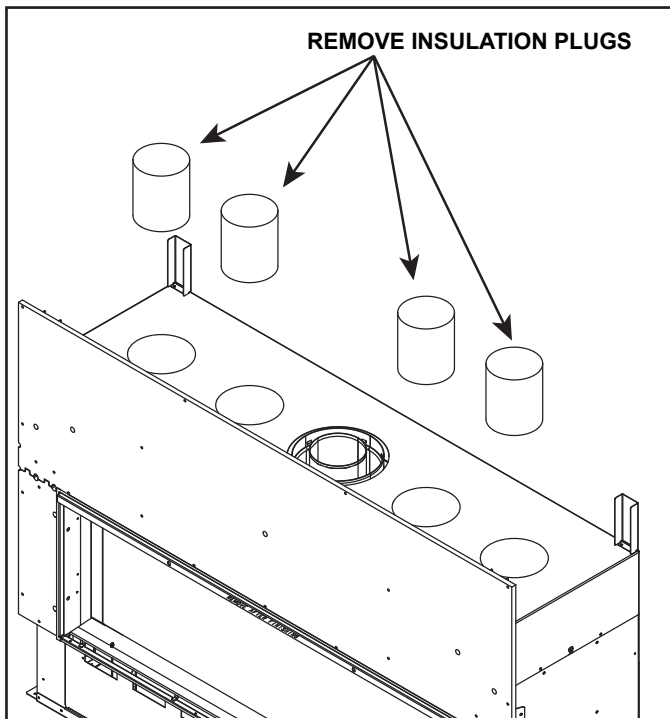

Figure 9 Remove Insulation Plugs
2. Remove the insulation plug from each knockout. Discard. See Figure 9.